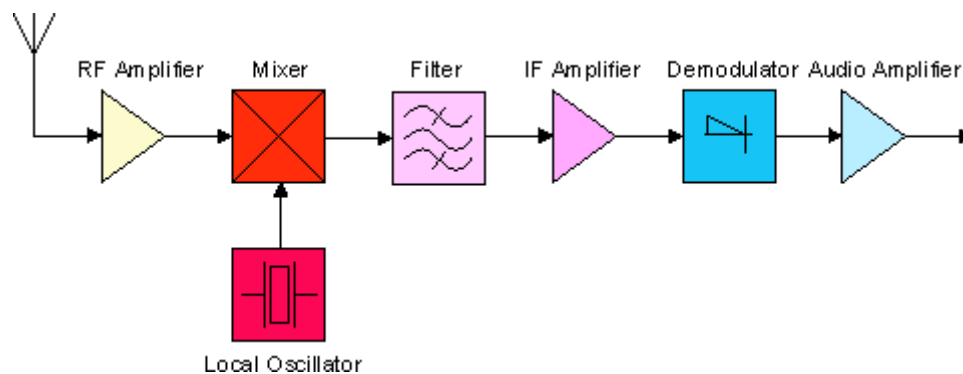

Figure 1: Superheterodyne Receiver
Fig.1. shows the minimum requirements for a single-conversion super heterodyne receiver design. The following essential elements are common to all superhet circuits: a receiving antenna, a tuned stage which may optionally contain amplification (RF amplifier), a variable frequency local oscillator, a frequency mixer, a band pass filter and intermediate frequency (IF) amplifier, and a demodulator plus additional circuitry to amplify or process the original audio signal (or other transmitted information). To receive a radio signal, a suitable antenna is required. This is often built into a receiver; especially in the case of AM broadcast band radios. The output of the antenna may be very small, often only a few micro volts. The signal from the antenna is tuned and may be amplified in a so-called radio frequency (RF) amplifier, although this stage is often omitted. One or more tuned circuits at this stage block frequencies which are far removed from the intended reception frequency. In order to tune the receiver to a particular station, the frequency of the local oscillator is controlled by the tuning knob